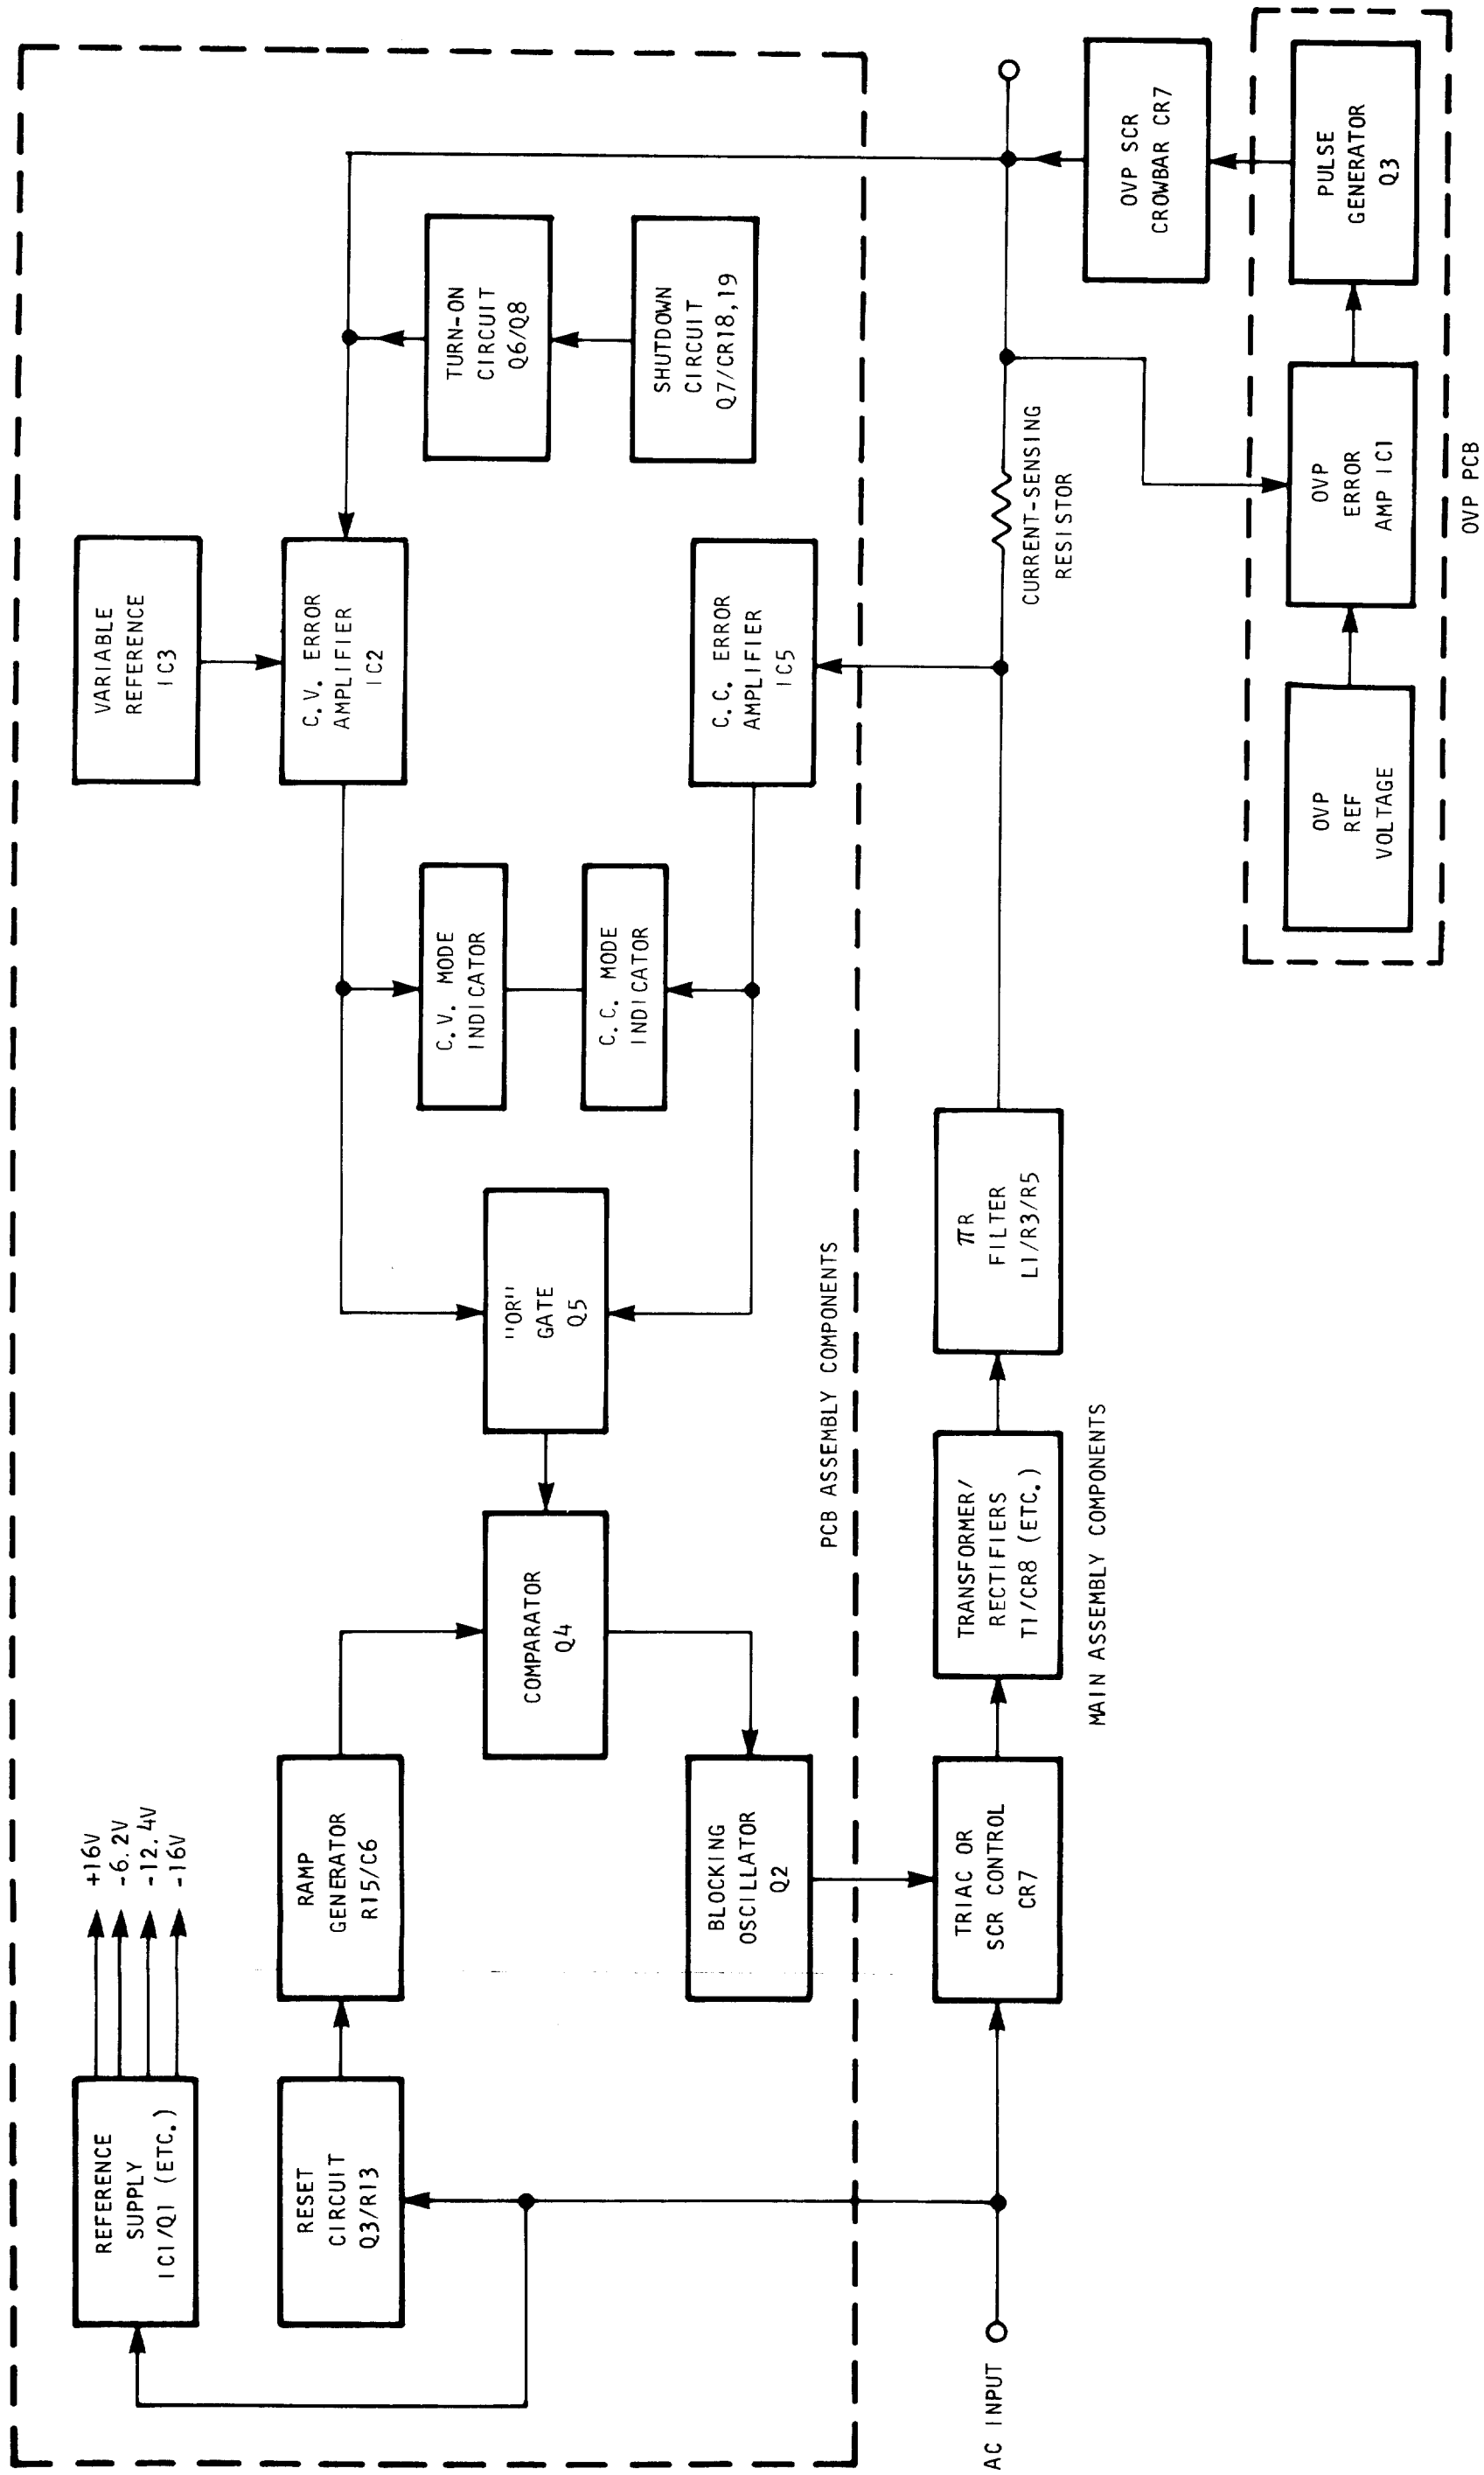

Figure 4-2 DCR-B Functional Block Diagram
4.3 BLOCK DIAGRAM ANALYSIS (Figure 4-2)